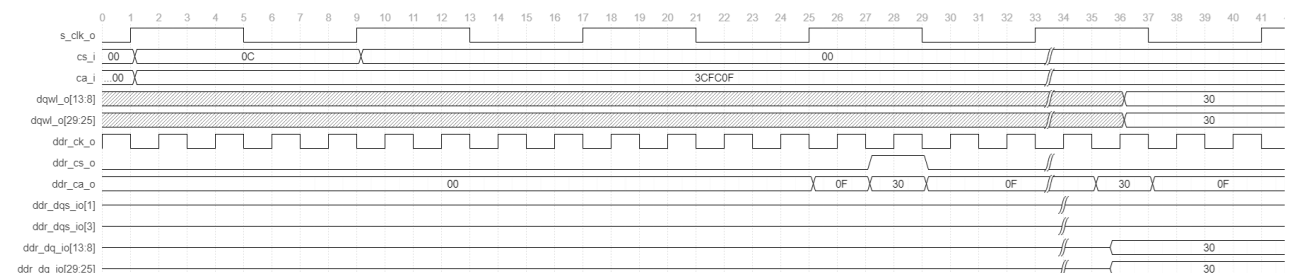

Figure 2.27. Sending/Capture a CA Pattern Timing Diagram
- Send CA pattern and capture the feedback value from LPDDR4 Memory – refer to Figure 2.27